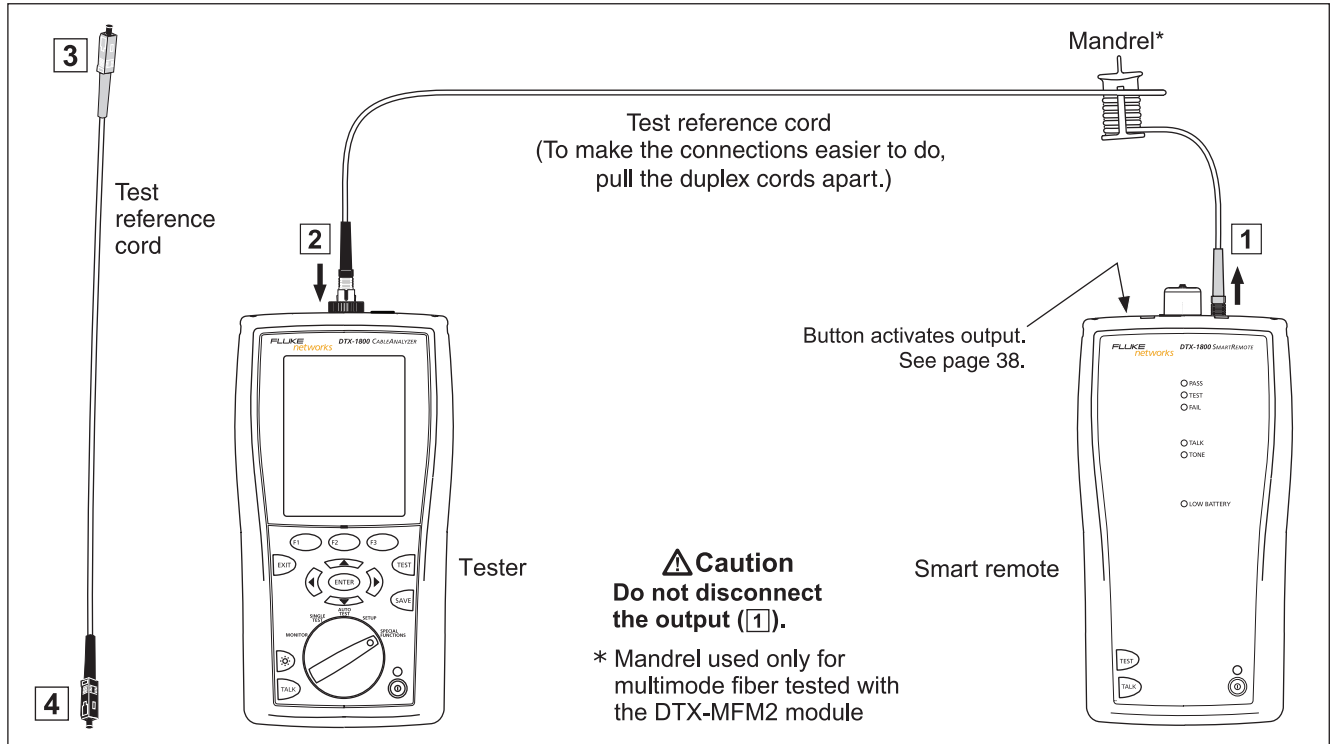

Figure 16. Setting the Reference in Far End Source Mode (1 Jumper Method)
- 5 The **Set Reference** screen shows connections for the test method you selected. Figure 16 shows connections for the 1 Jumper method. Clean and inspect the connectors on the tester, test reference cord, and source, connect the tester and source; then press .